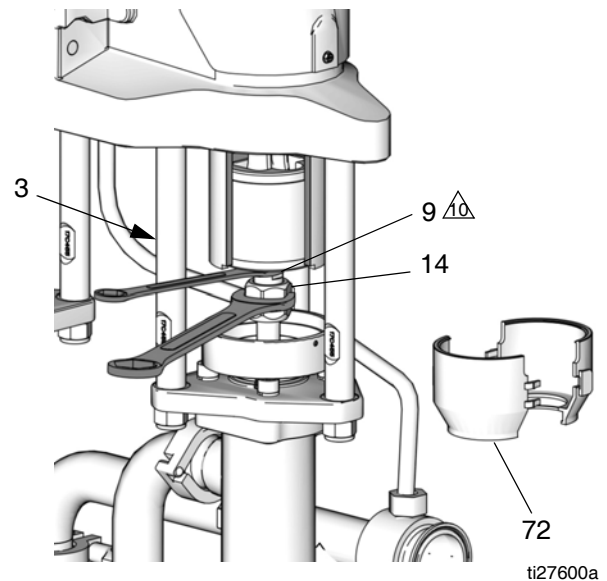

FIG. 5. Remove Coupling Nut
2. Jog the motor to bring the lower on the side being repaired to the bottom of its stroke. This provides access to the coupling nut (14).
4. **Pumps with Sealed Lower:** Remove the 2-piece shield (72, see FIG. 5) by inserting a screwdriver straight into the slot, and using it as a lever to release the tab. Repeat for all tabs. **Do not** use the screwdriver to pry the shields apart.
5. See FIG. 5. Place a 3/4 in. wrench on the slider piston (9) flats (just above the coupling nut), to keep the slider piston/connecting rod from turning when you are loosening the coupling nut (14). Orient the wrench so it is braced against one of the tie rods (3). Applying excessive force to the slider piston/connecting rod can shorten the life of the lower pin bearing.
6. Using a 1-5/8 in. open-end wrench, unscrew the coupling nut (14) from the slider piston (9) and let it slide down onto the pump piston rod. Be careful not to lose the collars (13).